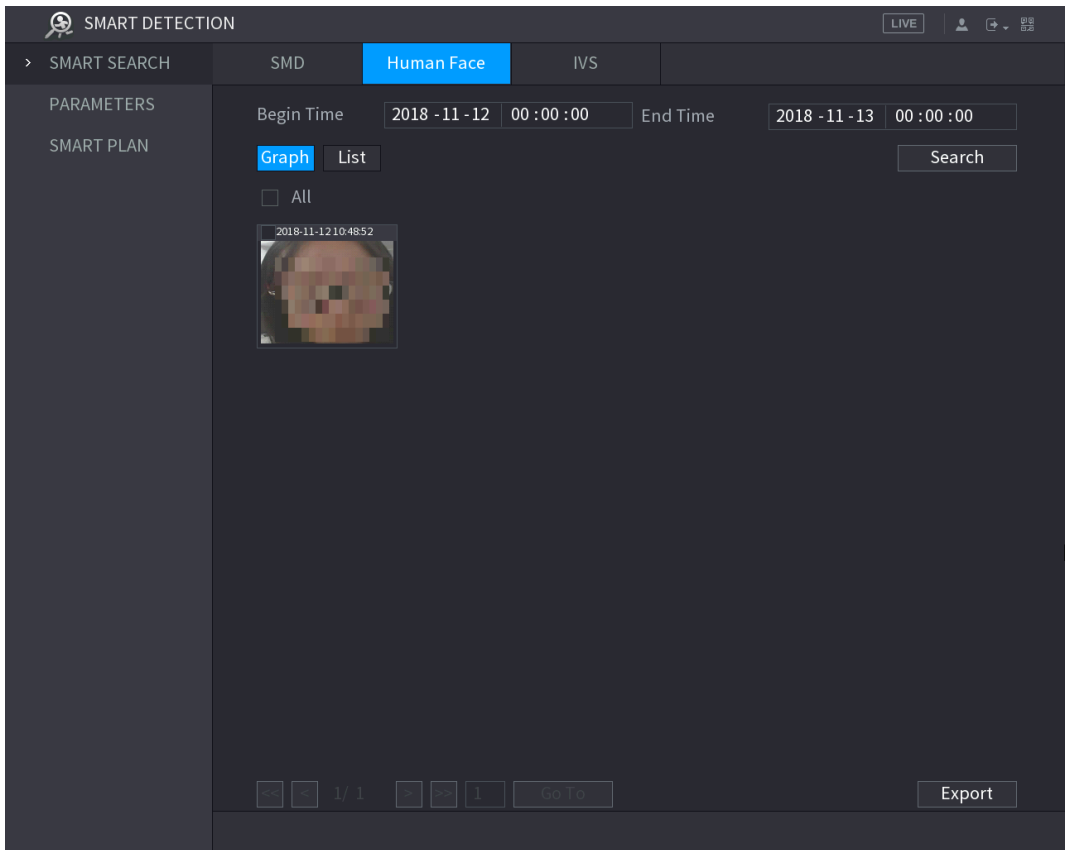
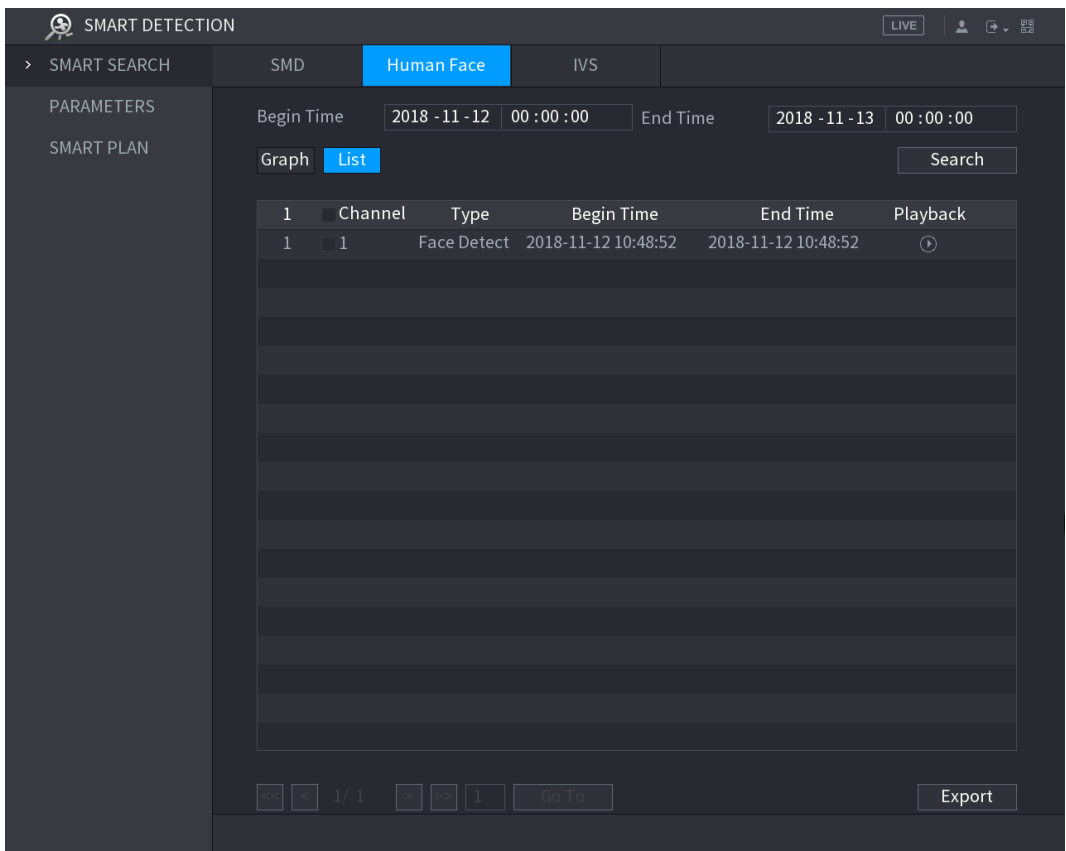

Figure 5-147
Figure 5-148
The faces searched in the defined period are displayed. See Figure 5-147 or Figure 5-148.
- Step 1 On the displayed faces as shown in Figure 5-147, double-click on the face.